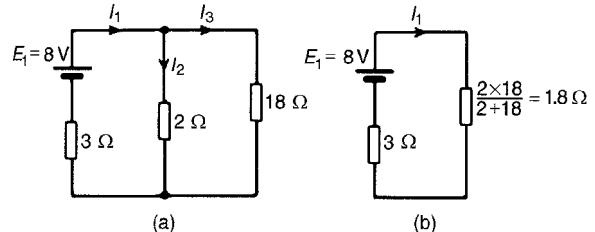
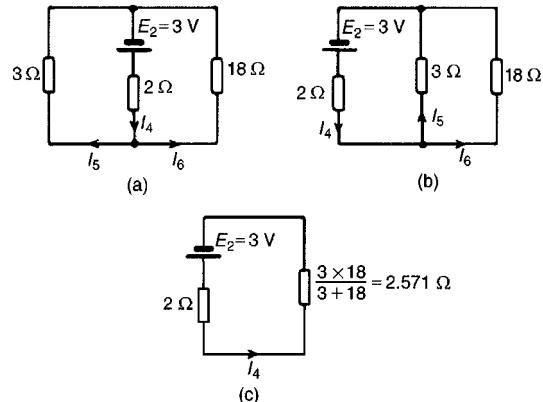
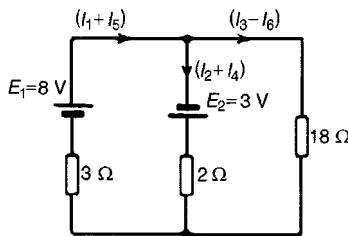

Figure 13.21
Figure 13.22
Figure 13.23
1 Removing source E_2 gives the circuit of Fig. 13.21(a)
2 The current directions are labelled as shown in Fig. 13.21(a), I_1 flowing from the positive terminal of E_1
From Fig. 13.21(b),
From Fig 13.21(a),
3 Removing source E_1 gives the circuit of Fig. 13.22(a) (which is the same as Fig. 13.22(b))
4 The current directions are labelled as shown in Figures 13.22(a) and 13.22(b), I_4 flowing from the positive terminal of E_2
From Fig. 13.22(c),
From Fig. 13.22(b),
- 5 Superimposing Fig. 13.22(a) on to Fig. 13.21(a) gives the circuit in Fig. 13.23